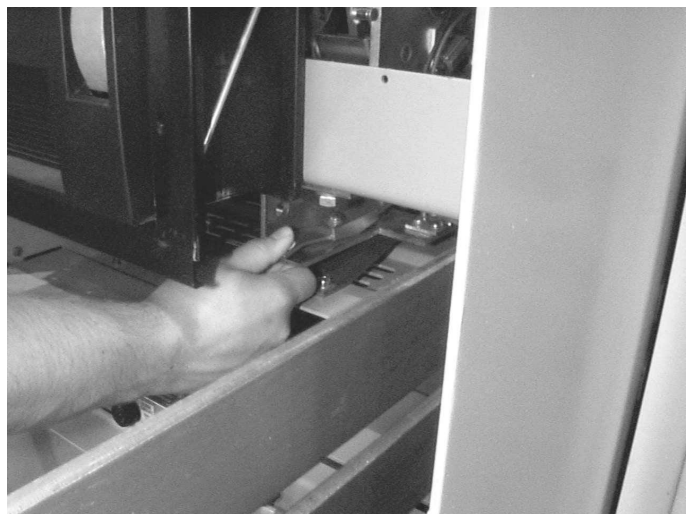

Fig. 5-11. Spring discharge interlock used on manually and electrically operated breakers
3. Open the door, depress the spring discharge lever (Fig. 5-11) to discharge breaker's closing springs and then fully extend the rails. While holding this lever depressed, pull the breaker all the way out to its WITHDRAWN position.